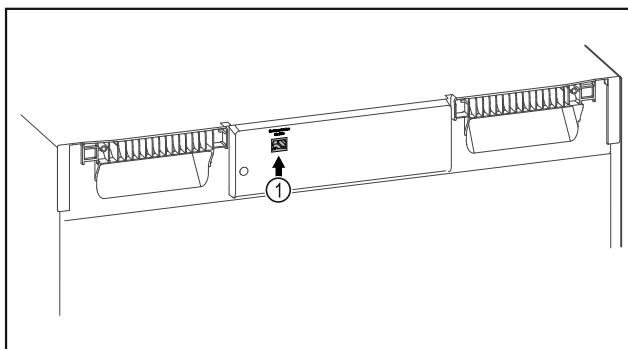

Fig. 89
- ❑ SmartModule Fig. 89 (1) is in use.